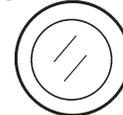

Figure 40. Pre-Heat Lamp
4. Depending on the temperature of the coolant (cold weather conditions), the pre-heat lamp (Figure 40) will light (ON) and remain on until the pre-heating cycle has been completed. After completion of the pre-heating cycle, the light will go OFF and the engine will start up automatically.